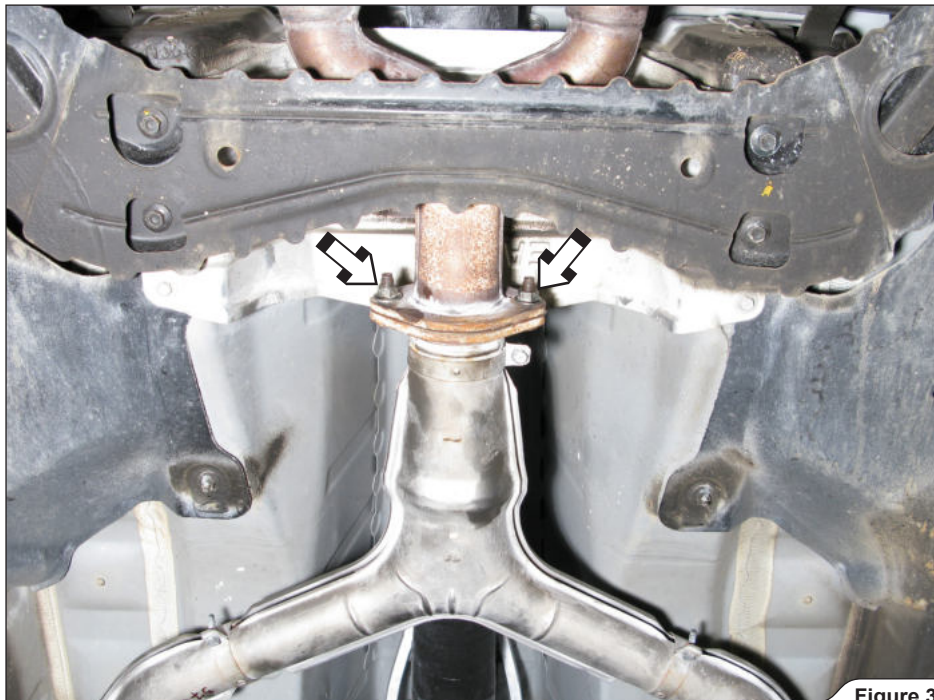

Figure 3
3. **For Evolution only:** unscrew the marked middle pipes' nuts (**Figure 3**).